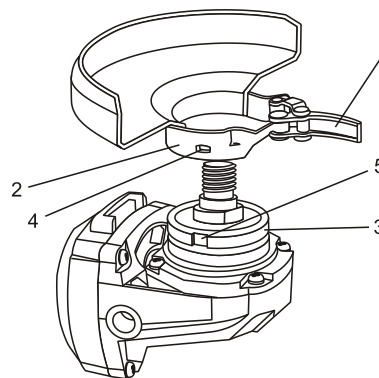

Fig. 2
1. Pull the guard clamp lever (1) outward to allow the guard clamp to expand for installation.
2. Slide the guard clamp (2) over the spindle housing (3) until the blade guard locating detents (4) mate with the grooves (5) in the spindle housing (Fig. 2).